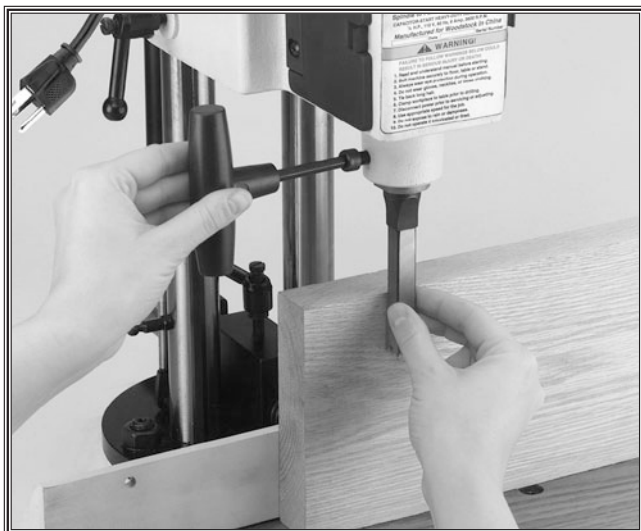

Figure 20. Back edge of chisel parallel with fence.
8. Loosen the cap screw holding the chisel housing and rotate the chisel until the back surface is parallel-with the board. **See Figure 20.** Tighten the cap screw.